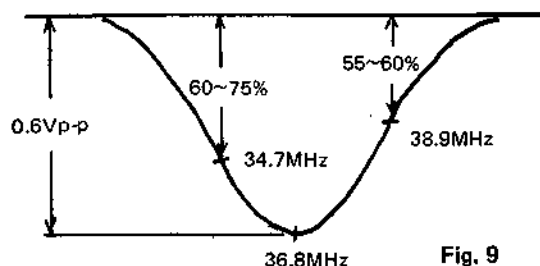

Fig. 9
1. Align T102 and T103 so that the wave form is illustrated in Fig. 9.